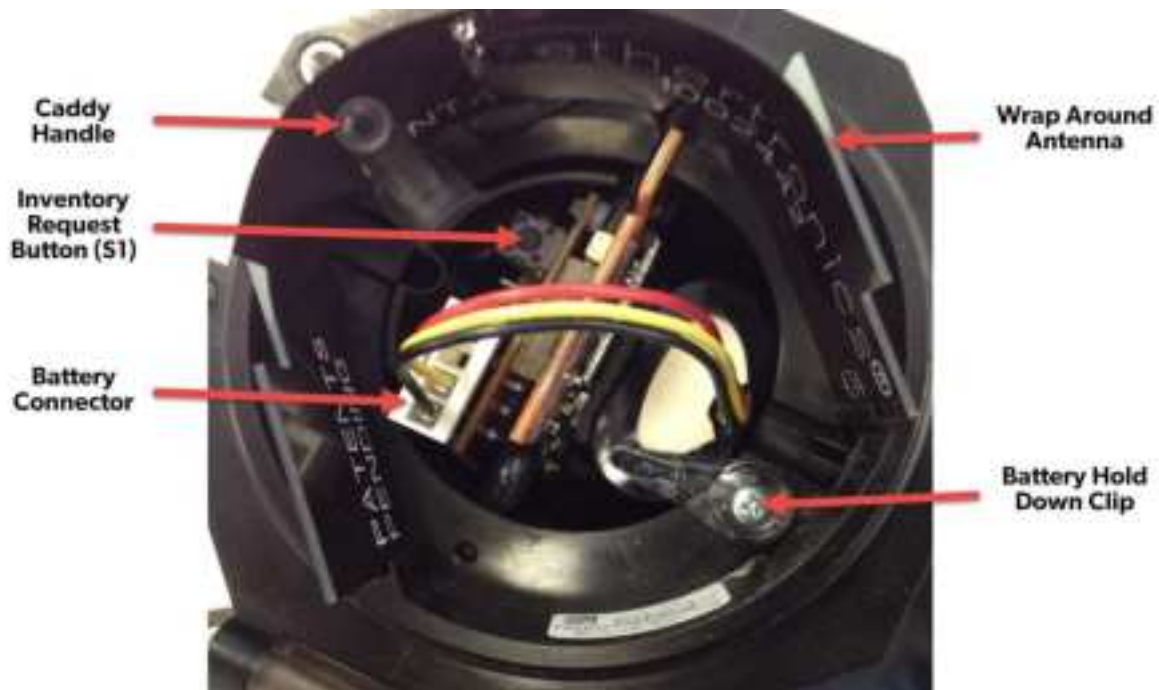

Figure 2. ST90 Major Components (Host)
- Without removing the ST90 electronics, carefully connect the battery cable to its mating connector (see Figure 2).